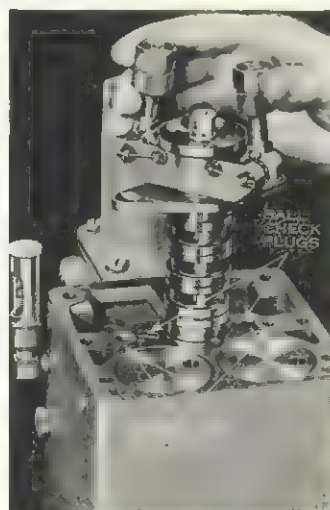

FIG. 2-1
2. Raise ballhead carefully and remove two laminated washers under retainer plate to avoid dropping them into the governor sump, Fig. 2-1.
2. Remove the ball check plugs. See top view of power case, Fig. 2-1.